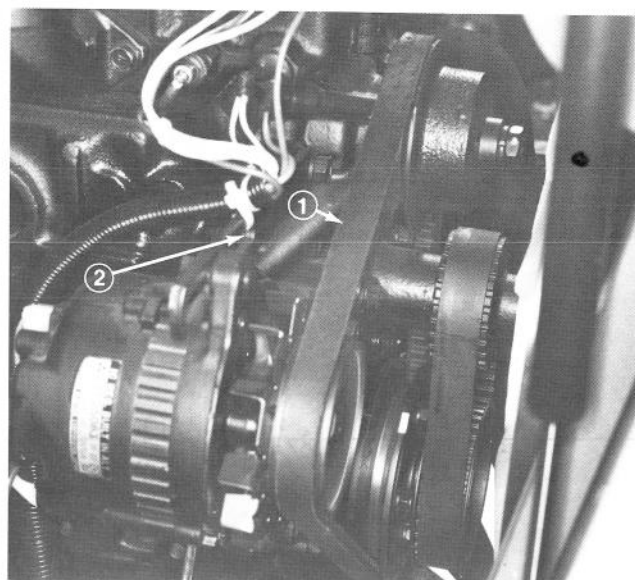

Figure 40
1. Condition and Tension – Check condition and tension of belts (Fig. 40) after every 100 operating hours.
A. Proper tension will allow 3/8 in. (10 mm) deflection when a force of 10 lbs. is applied on the belt midway between the pulleys (Fig. 40).